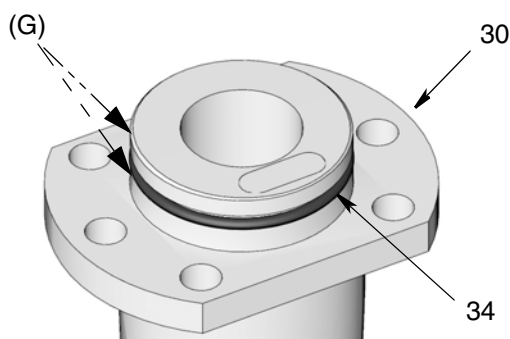

FIG. 60
12. Verify outlet o-ring (34) is in place on outlet (30). Apply a thin layer of grease (G) to o-ring as shown in FIG. 60.